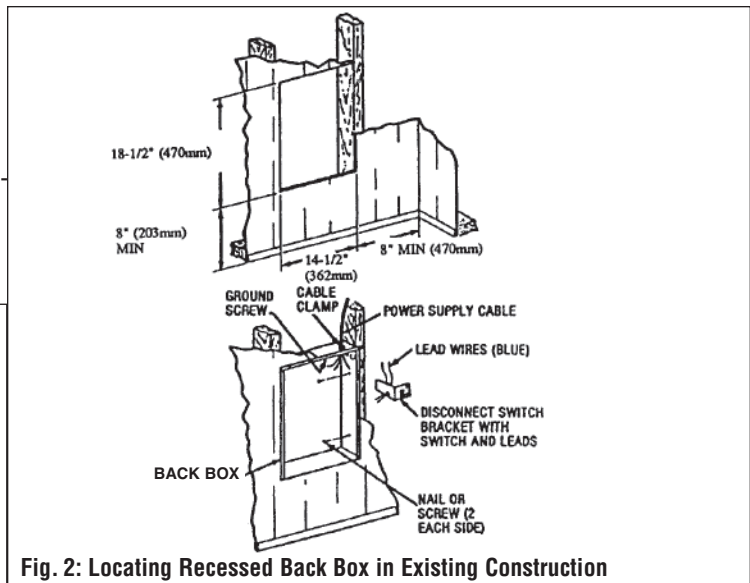

Fig. 2: Locating Recessed Back Box in Existing Construction
1. Provide a wall opening 14-1/2" (362mm) wide by 18-1/2" (470mm) high at the desired mounting height, but no closer than 8" (203mm). (See Figure 2.)